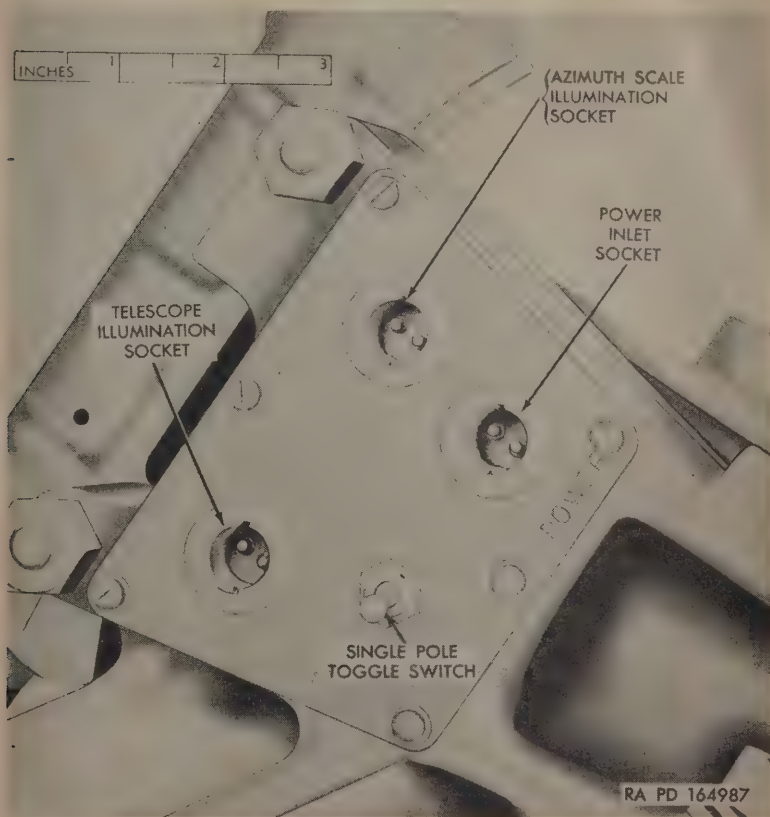

Figure 5. Lighting system sockets—Telescope mounts M52C and M52D.
j. *Illumination (Telescope Mounts M52C and M52D) (fig. 5).* A built-in lighting system illuminates the azimuth scale and micrometer and the reticle of the elbow telescope. A lamp bracket houses a socket assembly having a double contact bayonet-type socket. A 6- to 8-volt electric lamp is mounted in one end of the socket and the power cable plugs into the other end. The cover assembly includes a toggle switch and three double contact bayonet-type sockets (fig. 5). One socket serves the telescope mount, another serves the elbow telescope, and a third is for plugging in the outside power source.